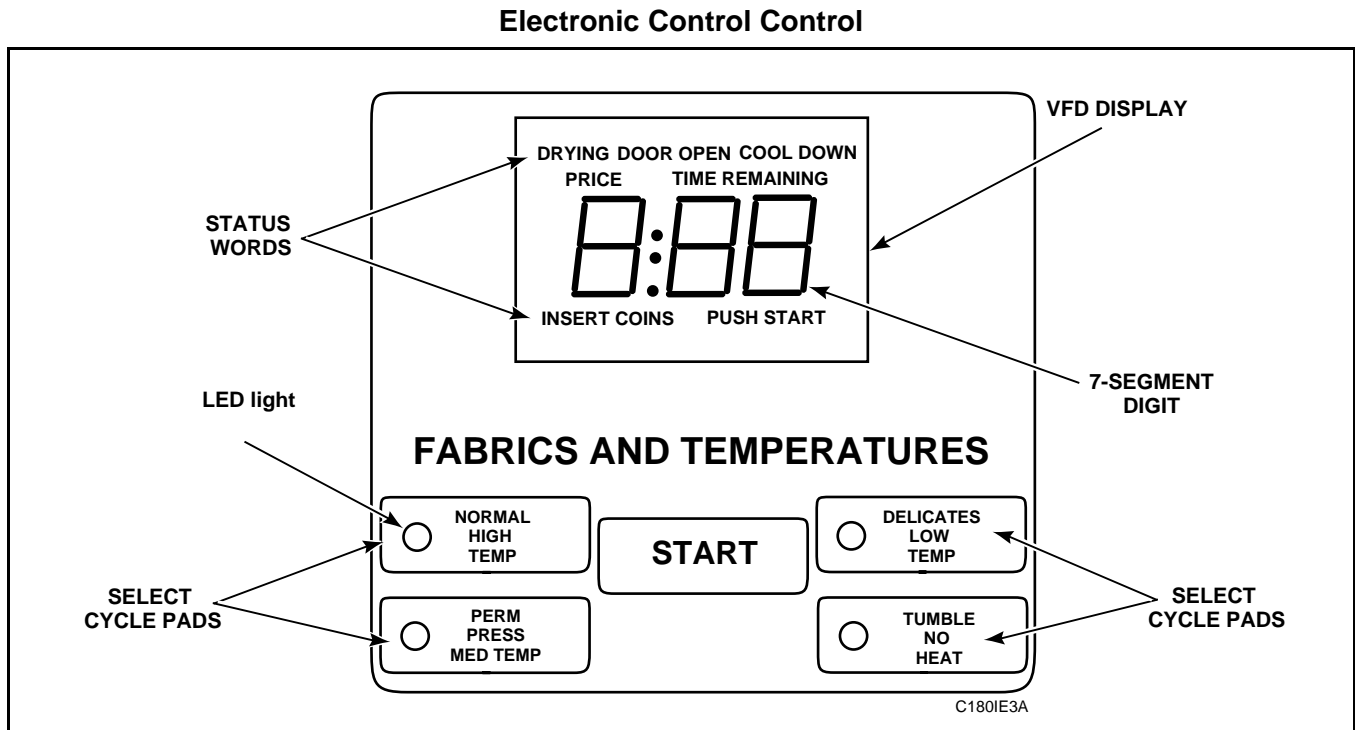

Figure 1
The Electronic Control on the tumbler is an advanced programmable computer that lets the owner control machine features by pressing sequences of SELECT CYCLE pads, *Figure 1*.
- VFD - Vacuum Fluorescent Display. This term refers to the window area of the Electronic Control control, *Figure 1*.
- LED - Light Emitting Diode. This term refers to the lights on the SELECT CYCLE pads, *Figure 1*.
Select Cycle Pads (Figure 1)
SELECT CYCLE pads are used to select the specific tumbler cycle and temperature. These pads include HIGH TEMP, MED TEMP, LOW TEMP, and NO HEAT, *Figure 1*. SELECT CYCLE pads are also used in programming and customizing cycle information and retrieving audit information in *Section VII*, “*Entering the Special Mode.*”
Start Pad (Figure 1)